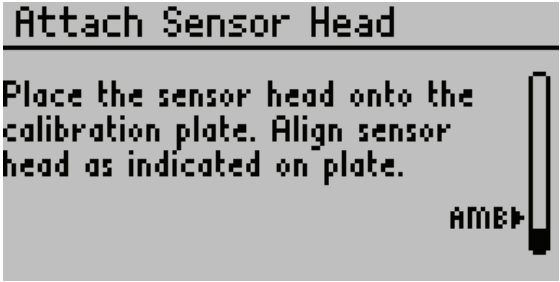

Figure 50 Attach Sensor Head screen
- The Attach Sensor Head screen will appear (Figure 50).